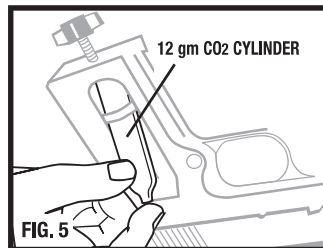

FIG. 5
- Insert the large end of the CO2 cylinder into the lower portion of the grip. Hold the gun in an inverted position with the grip pointing up and the muzzle pointing away from you as shown (Fig. 5). Position the small end of the CO2 cylinder inside the retainer so that the CO2 cylinder touches the puncture pin (Fig. 5).